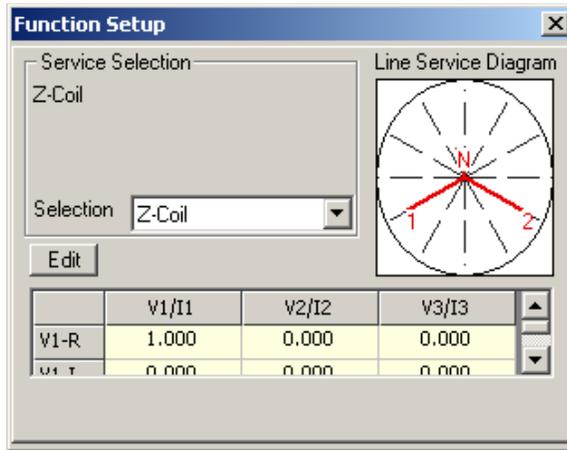

Figure 6.16.2.2
1. Service Selection Setup, figure 6.16.2.2